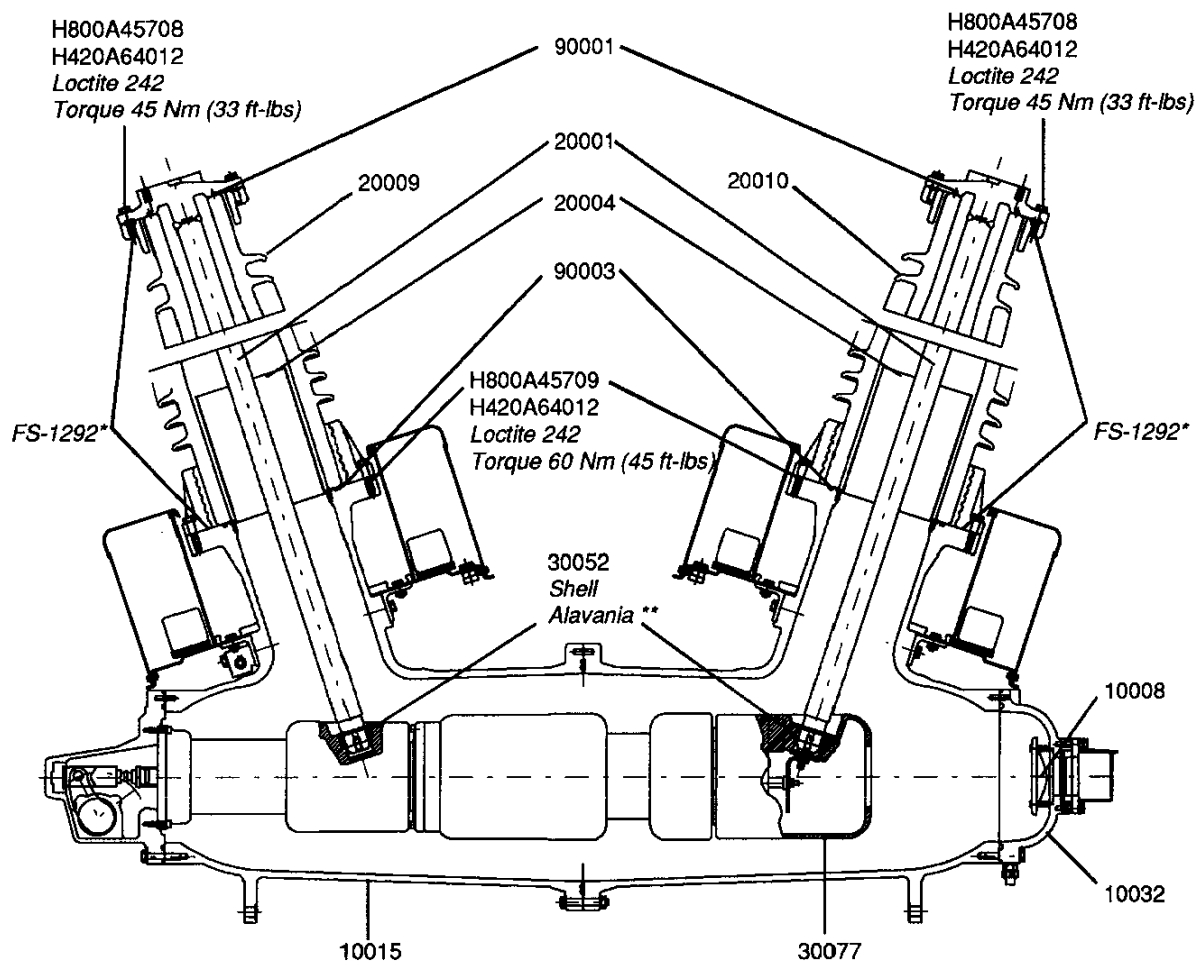
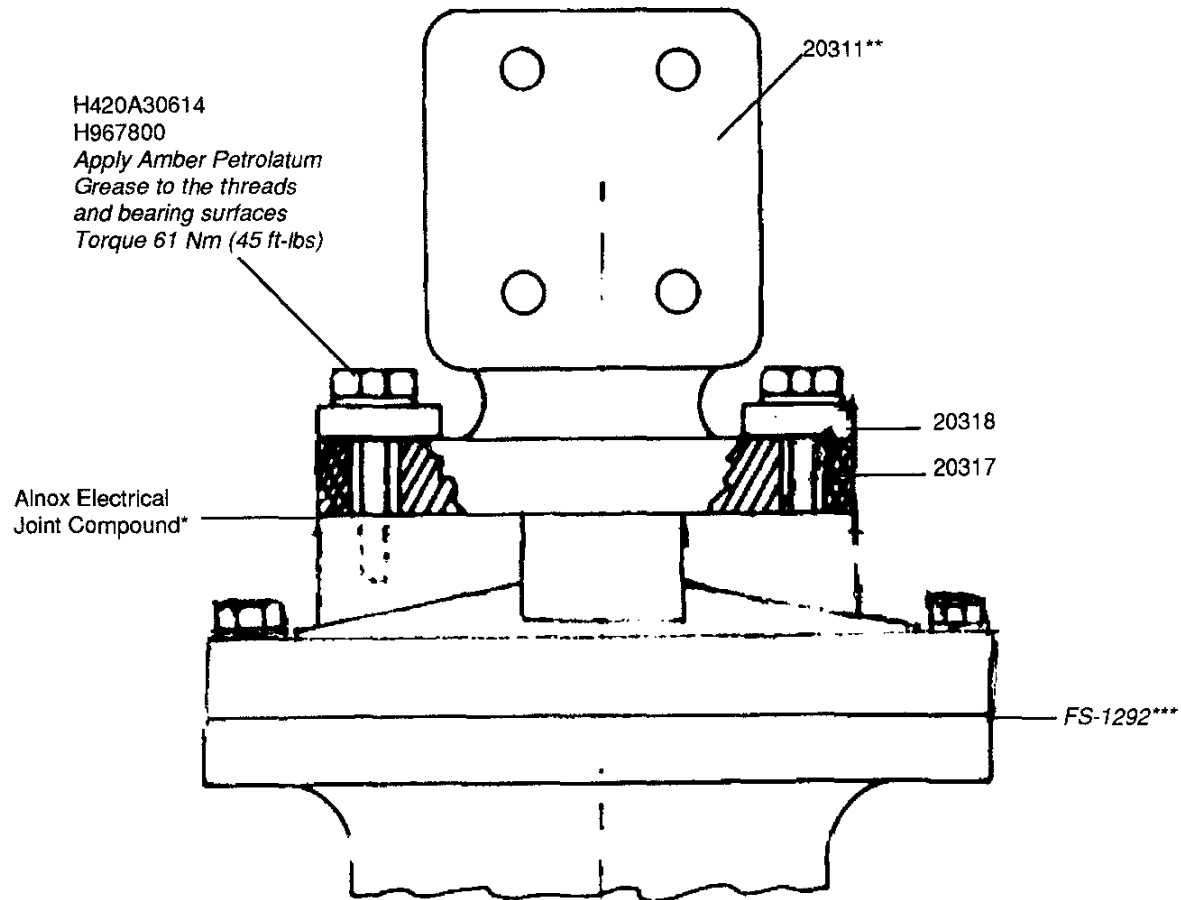

Figure 1
Figure 3
Separate procedures are followed for installing the front and rear bushing assemblies. To install the front bushing assembly 20009 (Fig. 1), refer to section 2.6.1; to install the rear bushing assembly 20010, refer to section 2.6.2.
The internal bushing throat shields 20004 (Fig. 1 or Plate 1) must be approximately centered within the porcelain bodies. Avoid scratching or denting the throat shields. If the shield is noticeably off center, especially to the extent that it touches the porcelain wall, the electric field characteristics will be negatively affected and dielectric failure could result.
To install the front bushing assembly 20009 (Fig. 1):
1. Remove the old O-ring 90003 (Fig. 1) from the pocket flange of the pole unit; clean the flange area and the O-ring groove with a lint-free wiper dampened with denatured ethyl alcohol.
3. Remove any scratches on the throat shield 20004 (Fig. 1) using Scotch-Brite. Wipe the throat shield several times using lint-free wipers dampened with denatured ethyl alcohol.
9. Apply a light coat of Shell Alvania No. 2 Grease to the male plug-in area of the bushing conductor 20001 (Fig. 1). Thoroughly rub the grease into the pores of the silverplating with a lint-free wiper and remove all excess.
Important: While the bushing assembly is being lowered into place, the male plug-in contact area of the bushing conductor 20001 (Fig. 1) will engage with the female plug-in connection 30052 on the interrupter unit.
12. Apply a drop of Loctite 242 to the threads of the bottom flange 1/2-inch hex head bolts H800A45709 (Fig. 1). Install the bottom flange bolts and flat washers H420A64012 (remove the bushing guide rods and replace them with the remaining bolts when all of the other bolts are in place). Torque the bolts to 60 Nm (45 ft-lbs).
To install the rear bushing assembly 20010 (Fig. 1):
2. Replace the desiccant bag 10008 (Fig. 1).
Each 145 PM circuit breaker is provided with six four-hole NEMA terminal pads 20311 (Fig. 3) as part of the field assembly materials. To install the terminal pad to the top cap of the bushing conductor 20001 (Fig. 1):
1. Coat mating surfaces between the terminal pad 20311 (Fig. 3) and top cap of the bushing with Alnox Electrical Joint Compound (found in the service kit). Abrade both contact surfaces with a wire brush to remove dirt and oxides. Completely wipe off the Alnox with a clean, lint-free wiper and immediately apply a new coat of Alnox to both mating surfaces to prevent oxidation.
3. Place a clamping ring 20317 (Fig. 3) over the terminal with the drip slots at the bottom of the clamping ring.